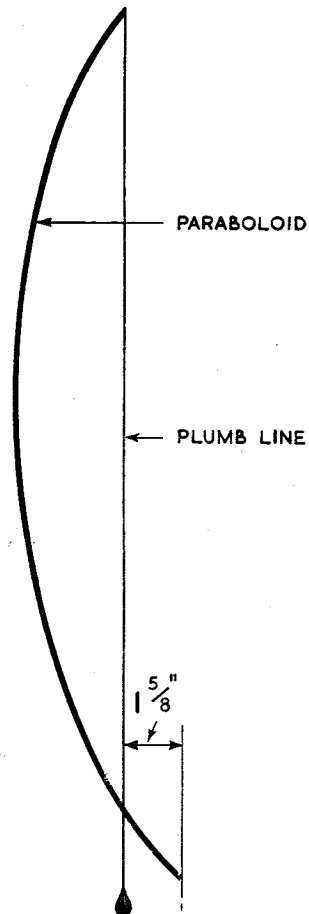

Fig. 18. Correct setting of aerial tilt
- (1) Attach a plumb line to the outer edge of the top of the reflector as shown in fig. 18.
- (2) Check that the line passes a point $1\frac{1}{8}$ in. behind the outer edge of the bottom of the reflector.
- (3) Repeat (2) with the aerial facing in different directions.